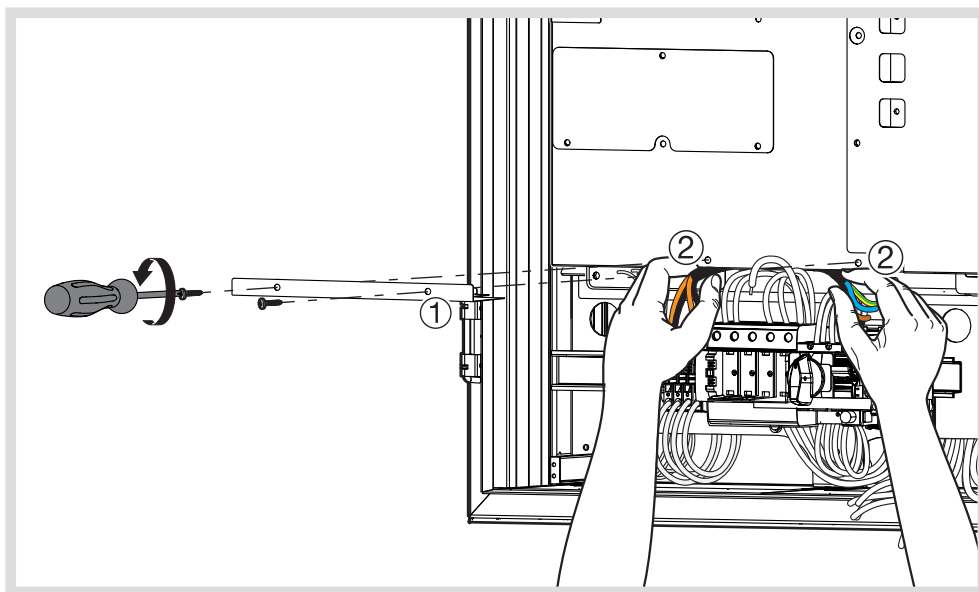

Figure 21: Feed out the connection cables from the inverter
- Unscrew the cable cover on the inverter and feed out the photovoltaic connection cable on the left and the network connecting cable on the right, then re-attach the cable cover so that the cables are all in the cable duct opening (Figure 21).